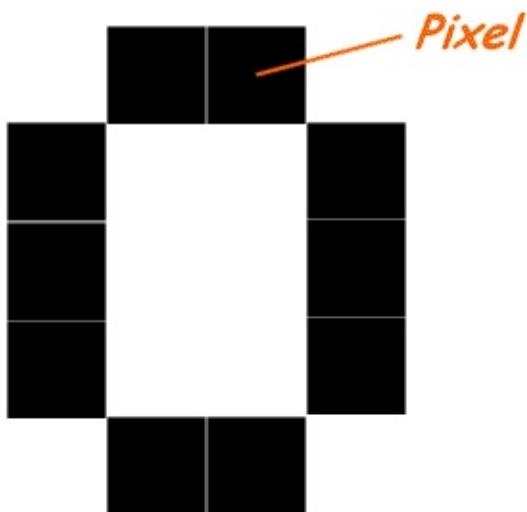

Figure 1-4. Group of pixels representing the image
- Pixel – A pixel is the smallest unit that makes up a digital image. It is generally a small square illuminated element that can take on various colors. For example, in Figure 1-4 you can see that the number “0” is composed of many pixels represented in the figure by black squares.